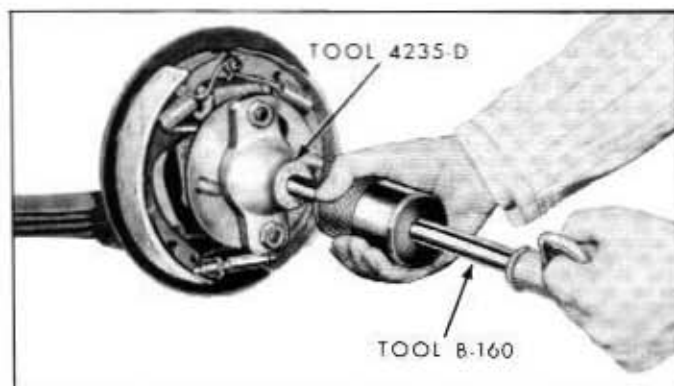

Fig. 4-10—Rear Axle Shaft Removal—(60C-5207)
3. Working through the hole provided in the axle shaft flange, remove the nuts that secure the wheel bearing retainer. Remove the axle shaft assembly from the axle housing with Tools B-160 and 4235-D. See figure 4-10. Use care to prevent damage to the axle shaft seal. The brake carrier plate must not be dislodged. Install one nut to hold the plate in place after the axle shaft is removed.
5. Working through the hole provided in the axle shaft flange, remove the nuts that attach the wheel bearing retainers to the axle housing. Remove the axle shaft assemblies from the axle housing with Tools B-160 and 4235-D. See figure 4-10. Use care to prevent damage to the axle shaft seals. The brake carrier plate must not be dislodged. Install one nut to hold the plate in place after the axle shaft is removed.